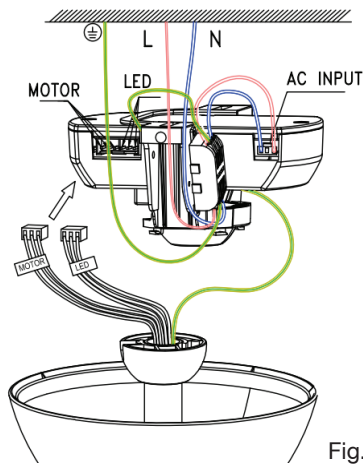

Fig. 7.1.
- B.** For fan models with light, plug cable marked 'motor' and 'LED' into remote control box. See Fig 7.1
- Slide receiver into position in the hanging bracket making sure the AC input connector on the receiver is aligned with the AC port on the receiver. Refer Fig 7.1 on page 7